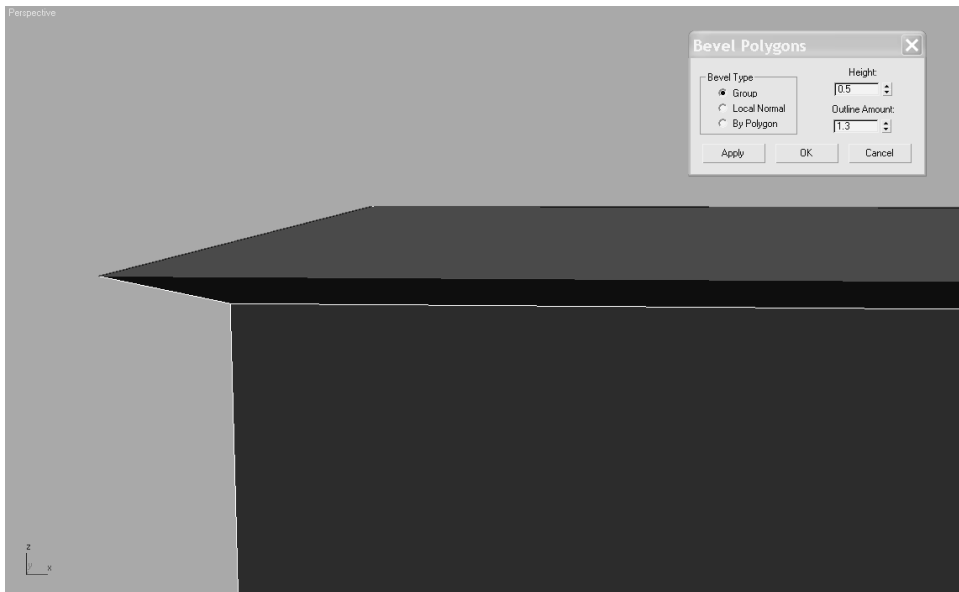

Figure 4.46
7. Enter the following parameters: Height: **0.5** and Outline Amount: **1.3**. Keep the Bevel Type set to Group as shown. Bevel Type will be explained in the Hand Modeling exercise in the next section. For now, just know that when you bevel only one poly, the Bevel Type is irrelevant; it is only for multiple polygons. Click the Apply button (*not* the OK button), and Max will apply the specified settings without closing the window to give you results that should be similar to Figure 4.46.